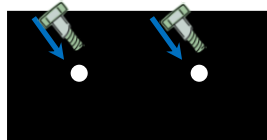

Figure 5-4. Assemble screws for Base Station
**Step 6.** Insert and tighten the two loop screws into the holes on the bottom of the Base Station as shown from the Figure 5-4.